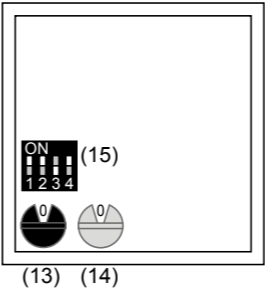

Figure 5: Rotary and DIP-switch setting
- On the button cover, set the group address 0-F of the black rotary encoding switch (Figure 5, 13) according to the setting on the BTE-116 button expander.
- On the button cover, set the subscriber address of the blue rotary encoding switch (Figure 5, 14) according to the door call connection on the BTE-116 button expander.
- Set the DIP switch for operating modes (Figure 5, 15) according to Table 4 below.